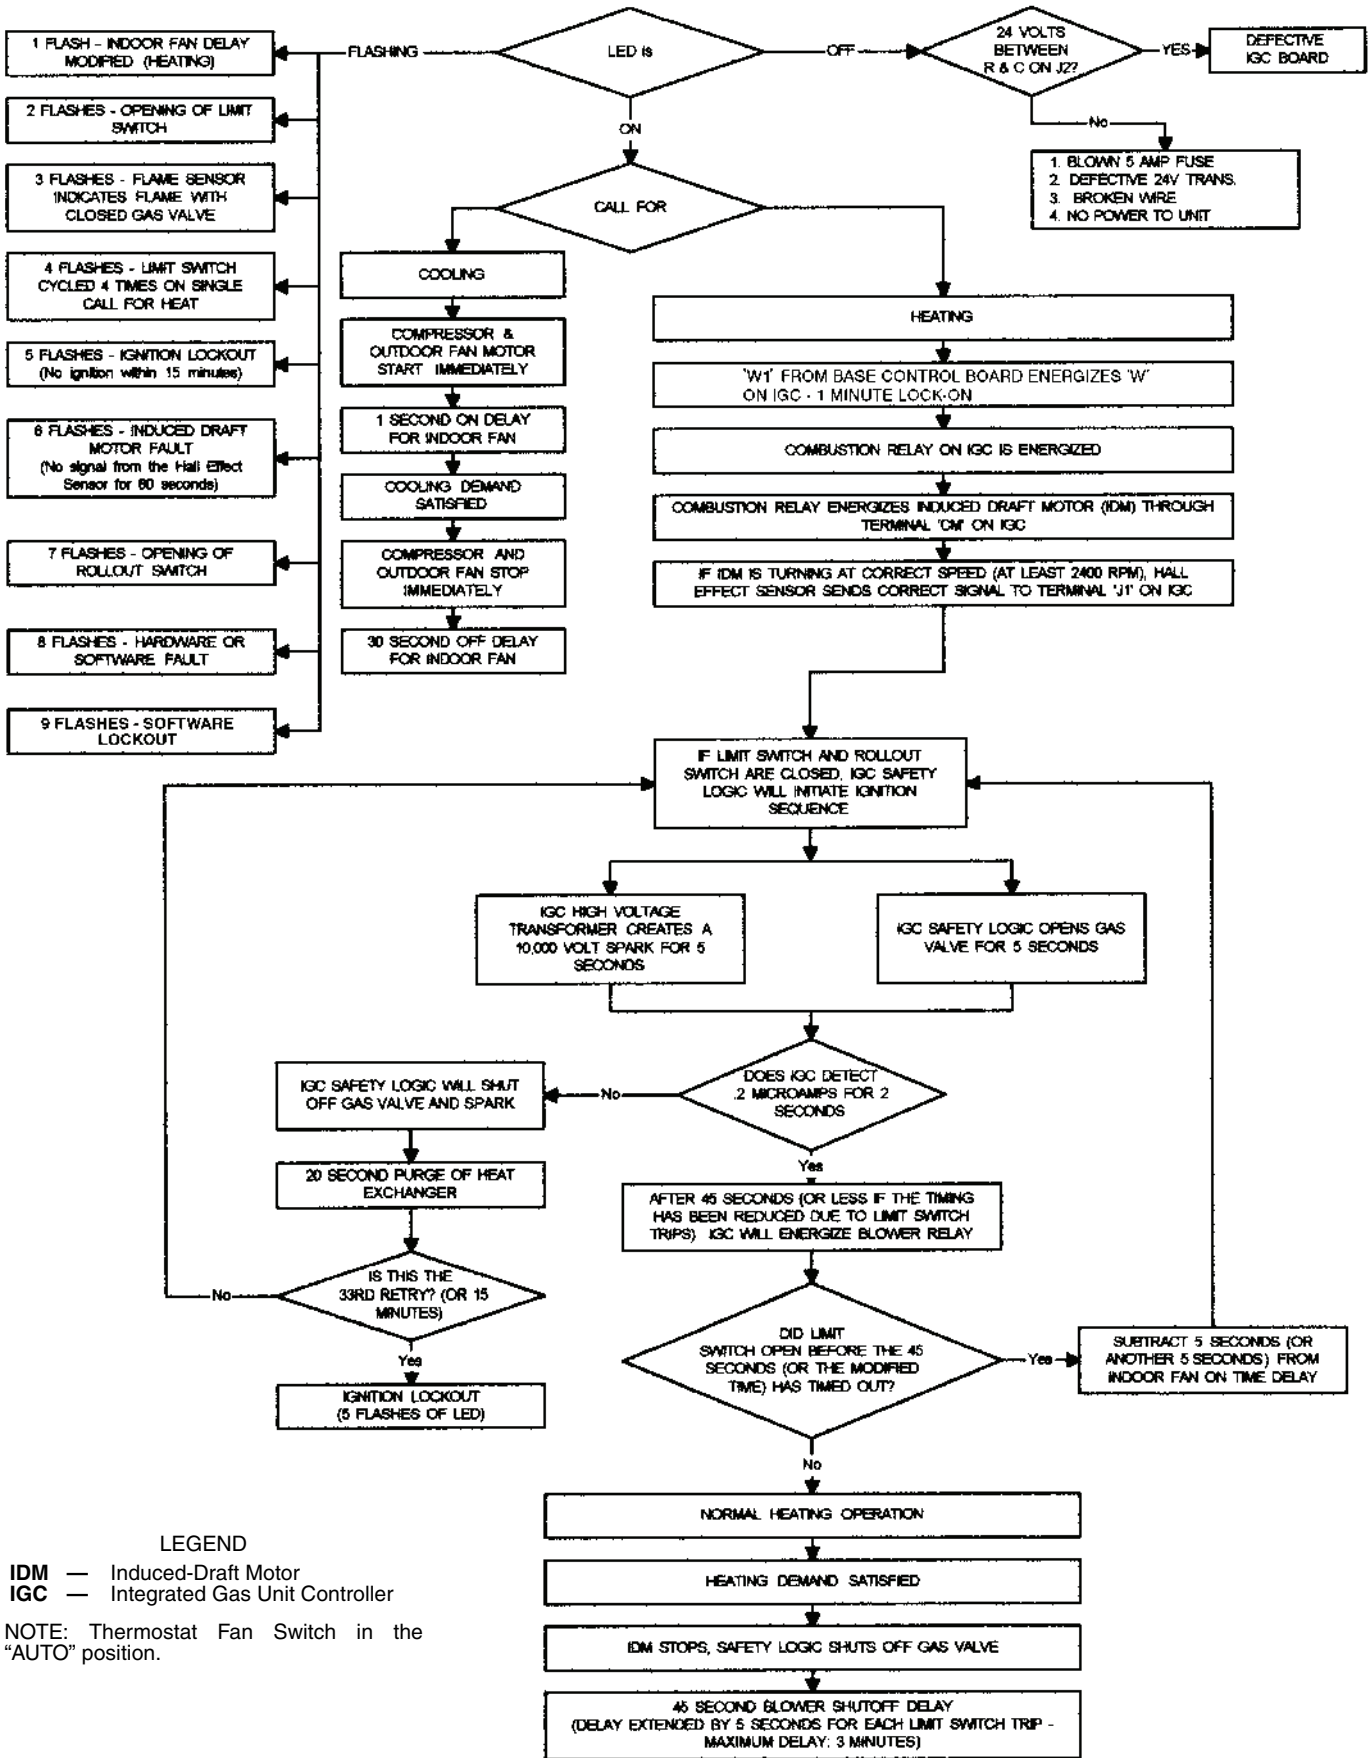

Fig. 14 — IGC Service Analysis Logic
**Service Analysis** — Detailed service analysis can be found in Tables 94-96 and in Fig. 14.